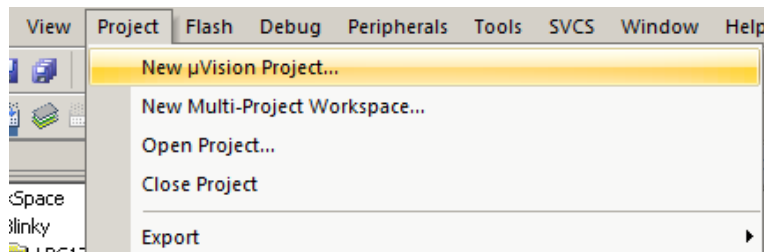

Figure 1.1: Keil IDE: Create a New Project
- Project \rightarrow New μ Vision Project (See Figure 1.1)